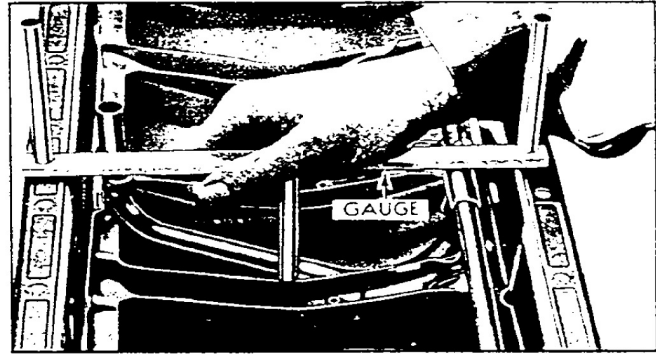

Fig. 21—Checking Oil Trough Depth
2. Slide the gauge so that the pin passes over the edge of the trough at its center (fig. 21).